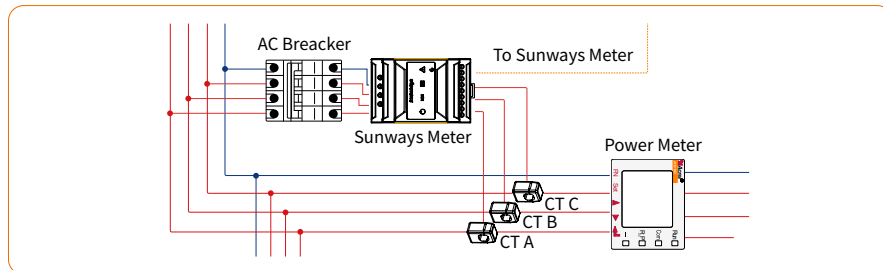

Figure 4-23 Meter wiring diagram
② The CTs have been connected to the Sunways Meter when you received them, and you just need to follow the wiring diagram in the Meter to connect CT, as shown in Figure 4-23.